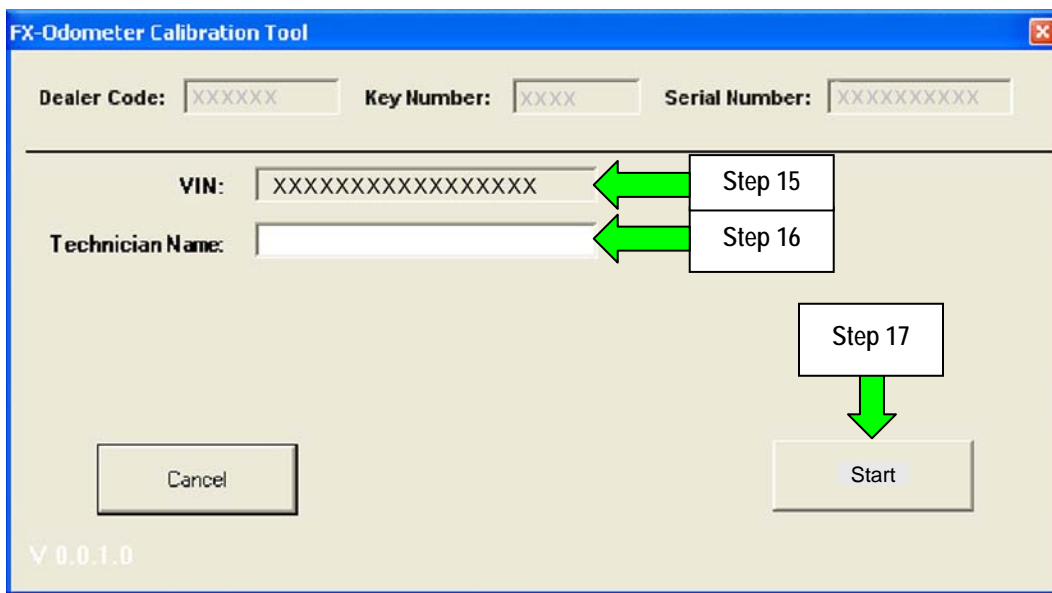

Figure 1h
14. The **FX Odometer Calibration Tool** will launch automatically (see Figure 1h).